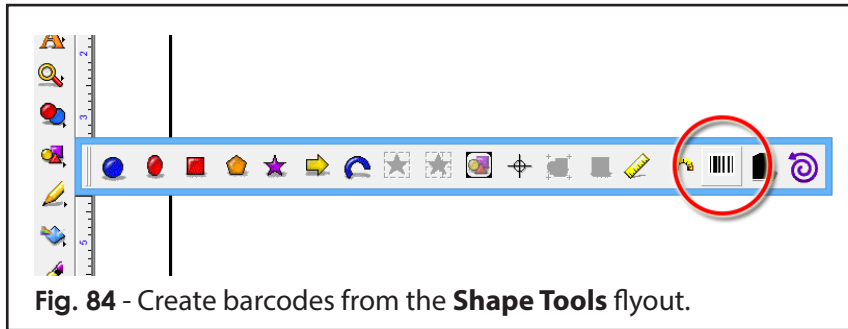

Fig. 84 - Create barcodes from the **Shape Tools** flyout.
- From the **Shape Tools** flyout, choose **Barcode** (Fig. 84).